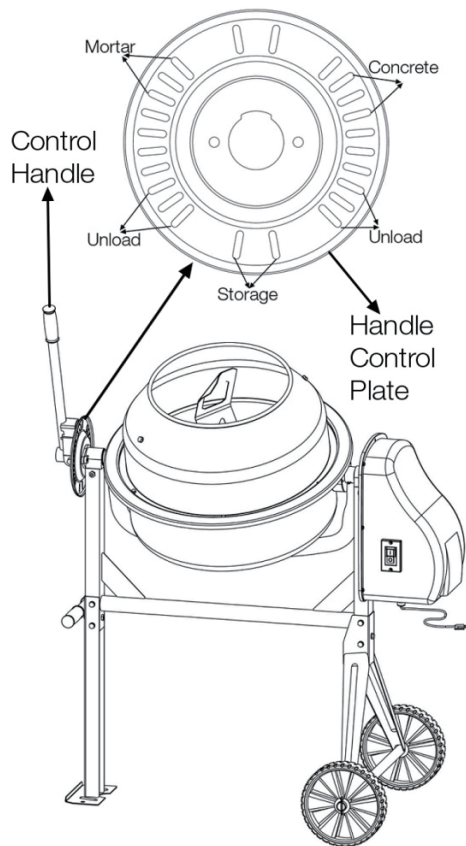

Figure 16
Drum tilting (Figure 16)
- The spring-loaded Control Handle with locking lugs allows for tipping control of the drum, and can be locked in the different position: Loading/mixing – mortar, Loading/mixing – concrete, unload and storage. Figure 16